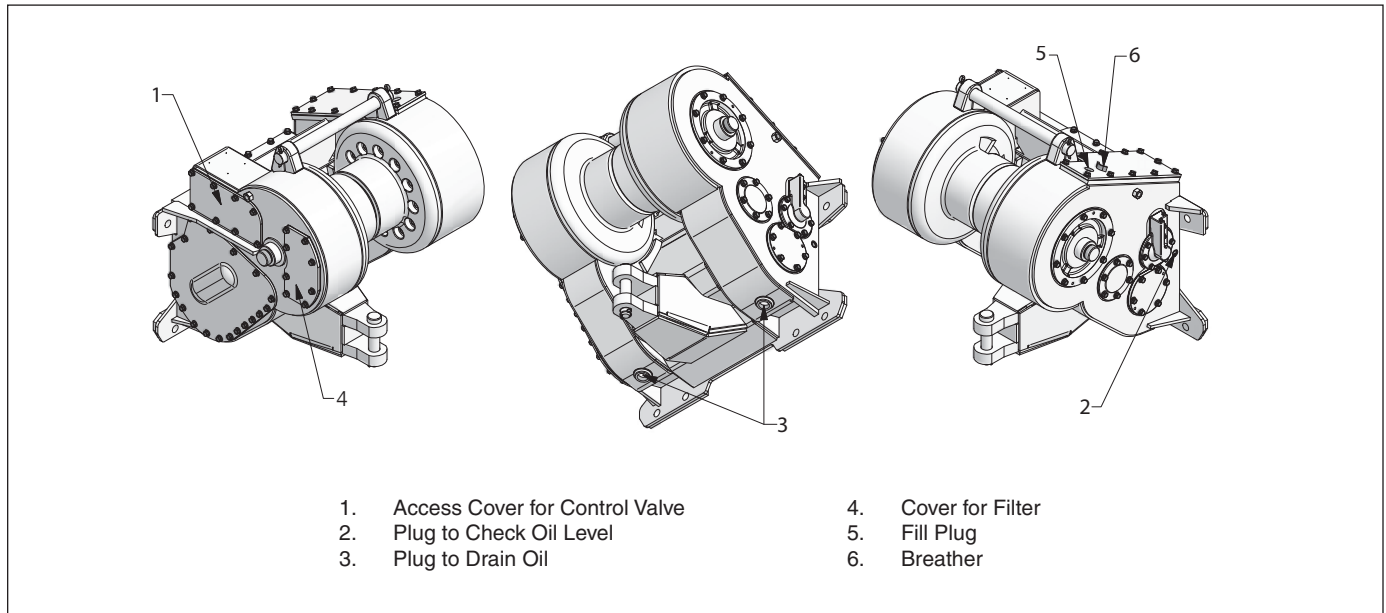

Figure 3-14 W8L Maintenance Points
4. Remove any dirt from the left side of the winch. Remove control valve access cover (Fig. 3-14).